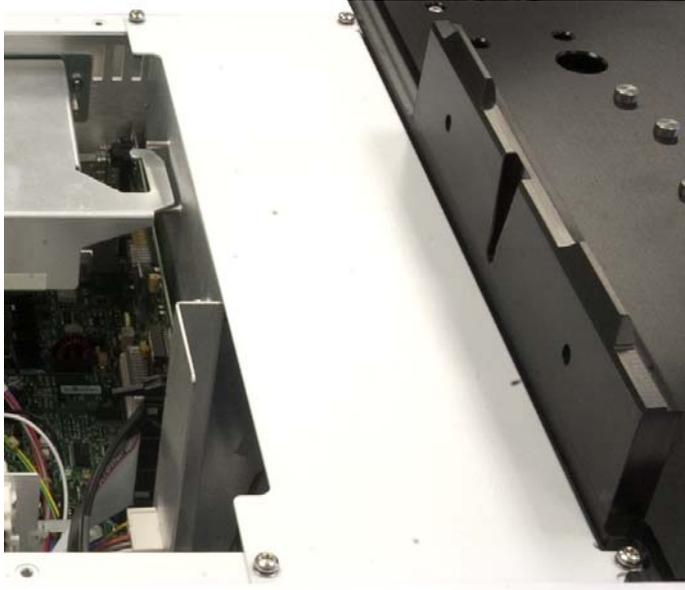

Figure 28 Removing the top-right main frame cover
- 5 Remove the four T-20 Torx screws that secure the top-right cover on the main frame, and remove the cover (Figure 28).